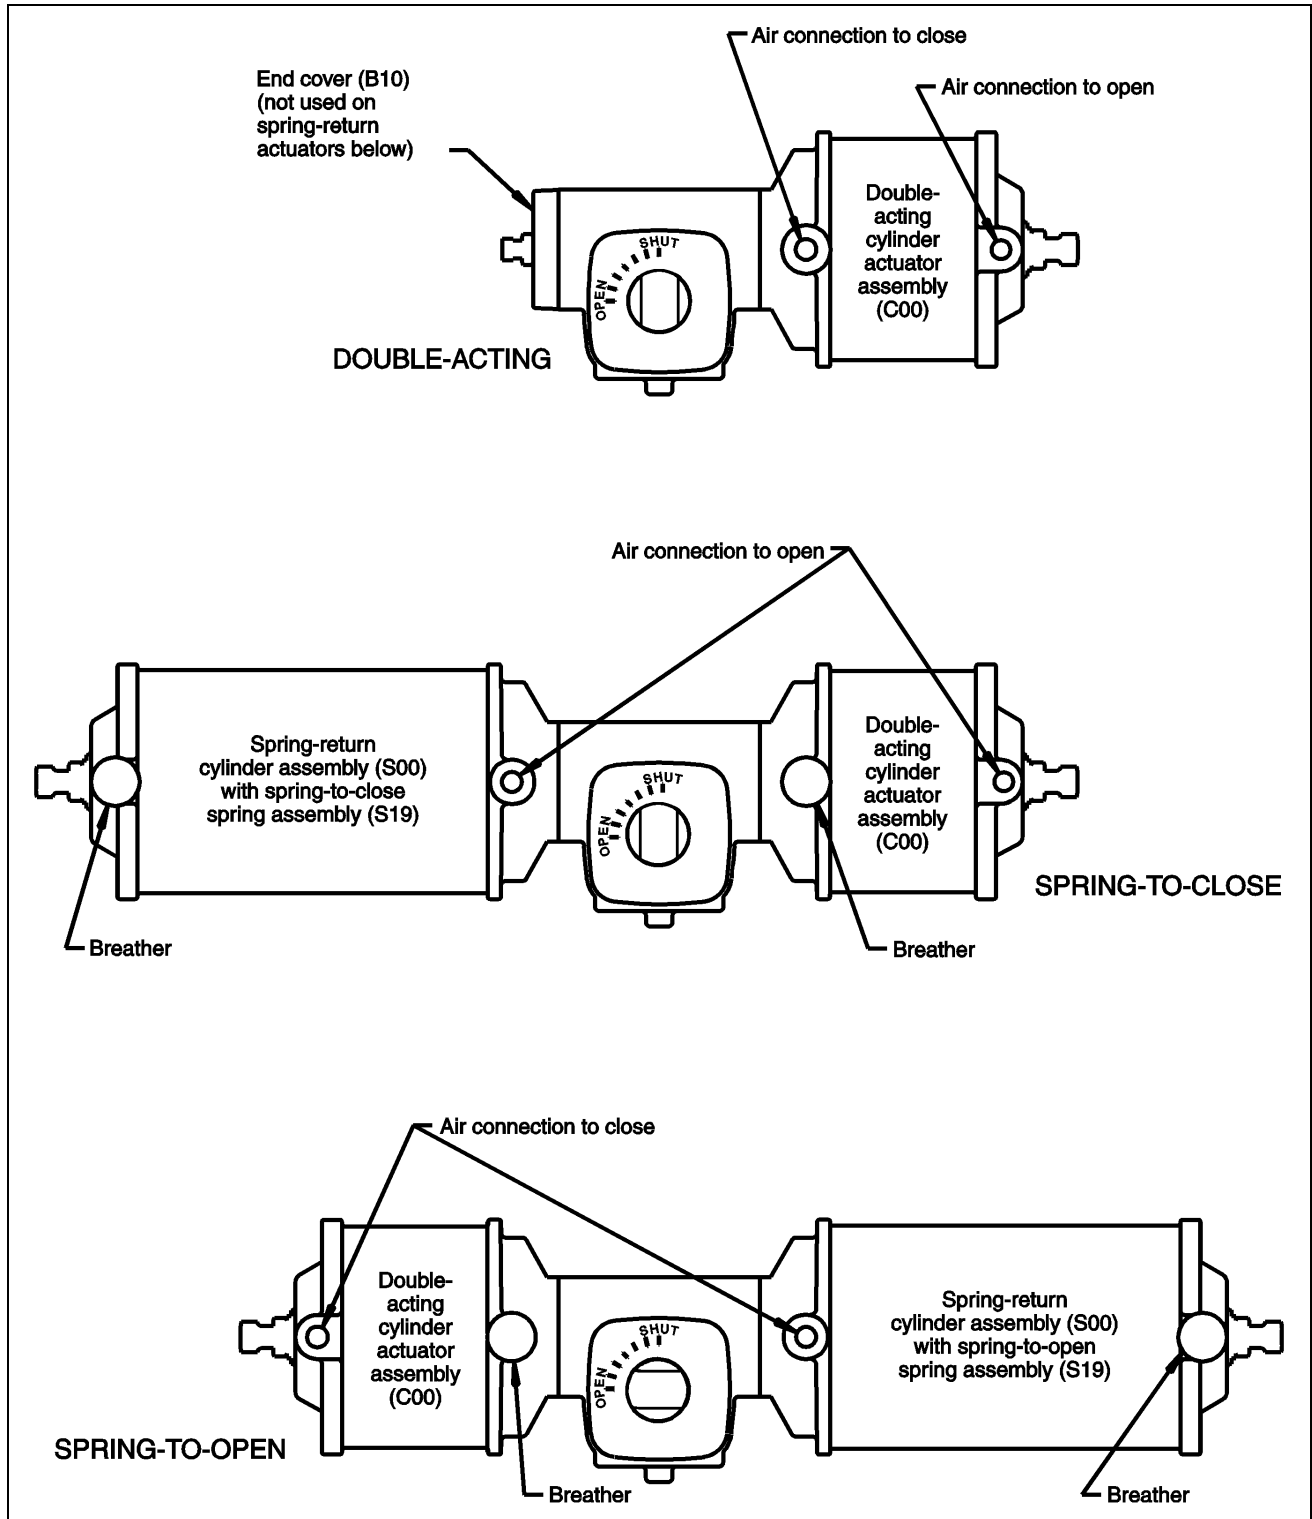
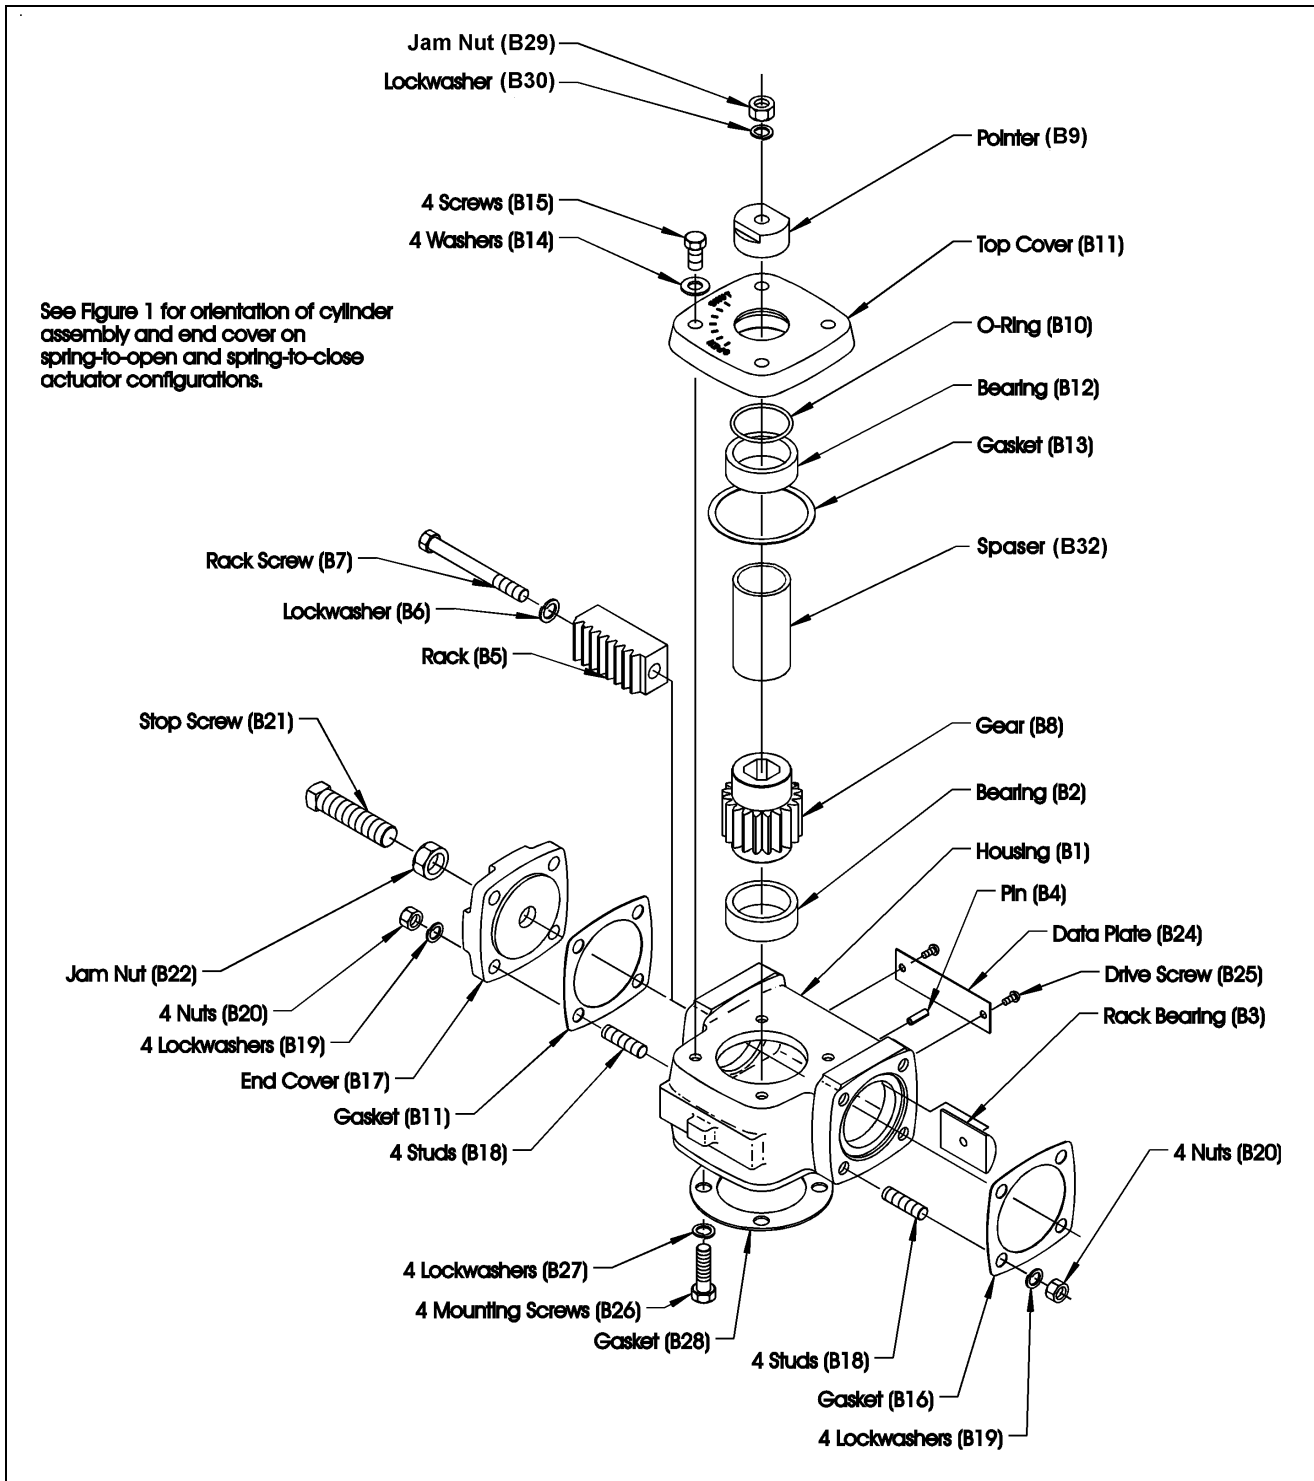

Figure 1—R1 PowerRac™ Actuator Configurations
Figure 2—Actuator Assembly without Cylinder(s)
These instructions include information for the three actuator configurations, and for changing from one to another. Refer to Figure 1 to identify the applicable configuration; refer to Figures 2 through 4 to identify the components within the configuration.
Pneumatic connections are required as shown in Figure 1, and as described below. All cylinder port connections are 1/4" NPT.
As the spring-return actuator is cycled, air is alternately exhausted and drawn in through two breathers—one on each cylinder as shown in Figure 1. The breathers must be protected from water because water inside of the actuator will cause sticking and premature wear of the internal components.
The actuator has been lubricated at the factory and requires no routine lubrication. If the actuator is disassembled (see Figures 2 thru 4 for actuator parts identification);
1. Loosen the jam nut on the Closed Position stop screw. See Figure 1 for stop screw identification.
1. Loosen the jam nut on the Open Position stop screw. See Figure 1 for stop screw identification.
Refer to Figure 2 for component identification.
Clean and inspect all parts. Refer to Figures 2, 3 and 4 for parts identification.